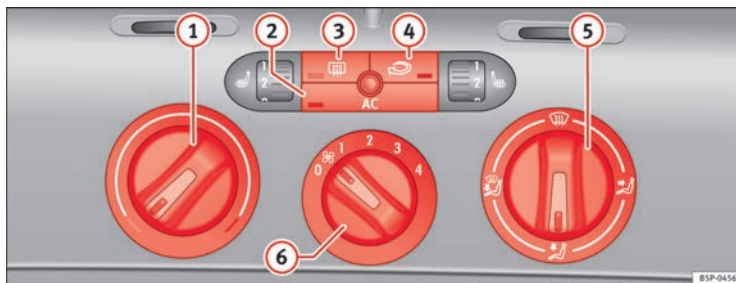

Fig. 126 On the dash panel: Climatic controls
- Use the knobs ⇒ fig. 126 ① and ⑤ and control ⑥ to set the temperature, air distribution and blower speed.
- To switch a function on or off, press the appropriate button ②, ③ or ④. When the function is activated, the display window in the lower corner of the button is lit.
- ① Temperature selector ⇒ page 160
- ② **AC** button – Heating, ventilation and air-conditioning system on/off ⇒ page 160
- ③ button – Heated rear window The heating will be switched off automatically approximately 20 minutes after switching on. It can also be switched off beforehand by pushing the button.
- ④ Button – Air recirculation mode ⇒ page 161
- ⑤ Air distribution control ⇒ page 160
- ⑥ Blower switch. There are four speed settings for the air flow. The air flow should always be set at the lowest speed when driving slowly.
- Switch on the air conditioner using the button ⇒ fig. 126 .